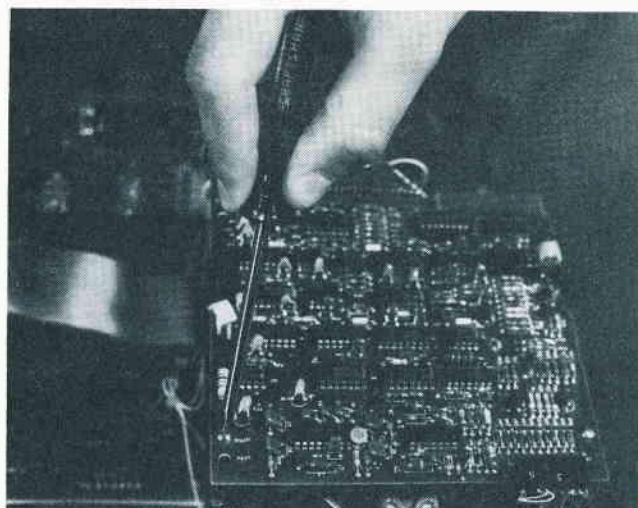

Fig. 5-10. Remove the two Phillips screws holding the analog card on the drive mechanism.
9. Carefully remove the two Phillips screws holding the analog card on the drive (located in the front on both sides) as shown in Fig. 5-10.